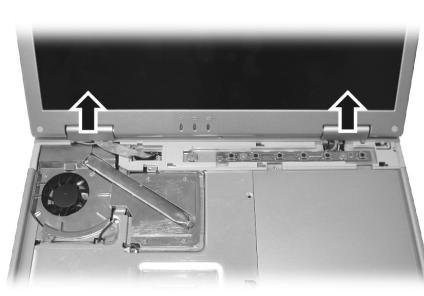

Figure 2-14
5. Remove the two hinge covers. (Figure 2-14)